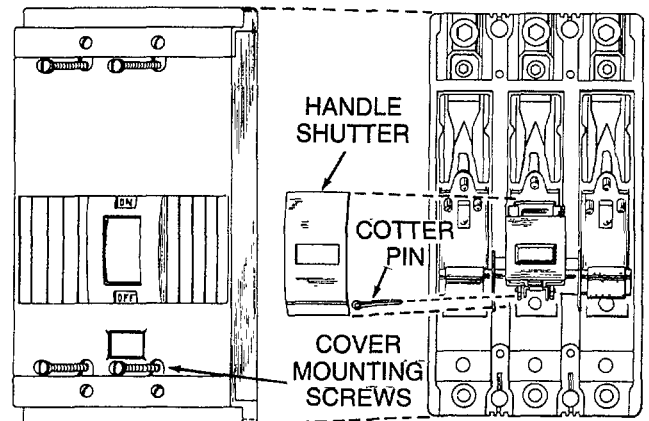

Figure 1
1. Remove cover mounting screws, frame cover, and handle shutter, Figure 1.